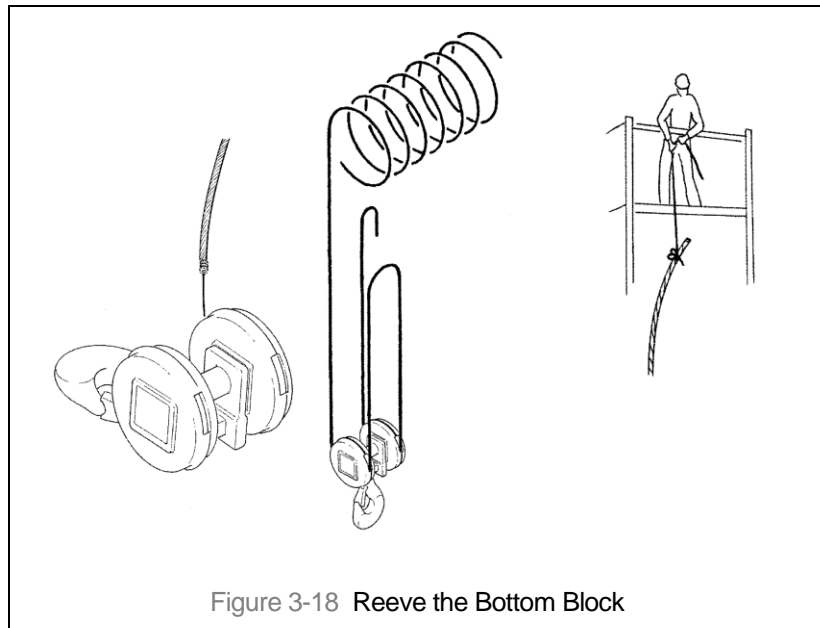

Figure 3-18 Reeve the Bottom Block
- 3) Place the Bottom Block on the ground so that it is positioned perpendicular to the hoist, and insert the rope end into the bottom block as shown in Figure 3-18 for 4/1 reeved hoists (4 rope-falls). To make rope insertion easier, temporarily attach a wire to the end of the rope with adhesive tape and use the wire to pull the rope through the Bottom Block. Securely tie a string or cord to the end of the rope and pull the wire rope up to the hoist from the scaffolding/platform. Thread the rope through the return pulley installed in the hoist, then back through the Bottom Block (see Figure 3-18).